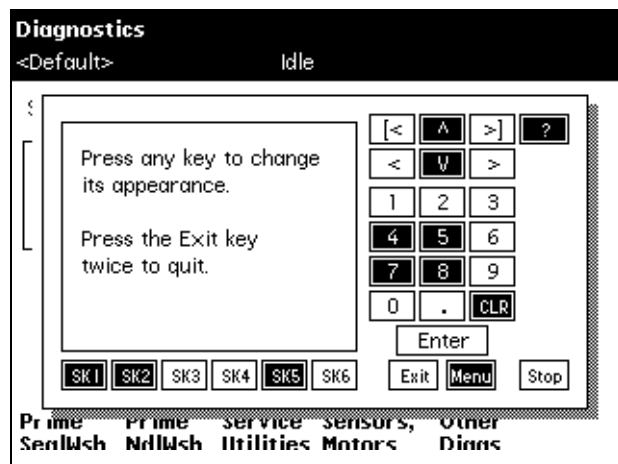

Figure 8-10 Keypad Diagnostic Screen
1. Select **Keypad** in the Other Diagnostics drop-down list, then press **OK**. The Keypad diagnostic screen appears (Figure 8-10).